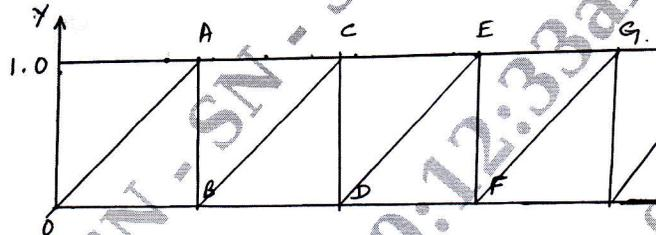

Fig.Q2(b)
- b. Find the Fourier series for the saw-tooth curve as shown in Fig.Q2(b).